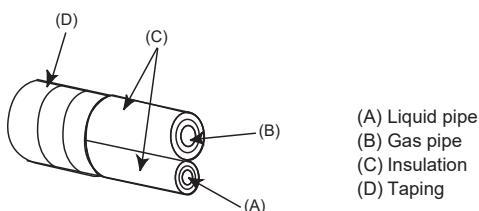
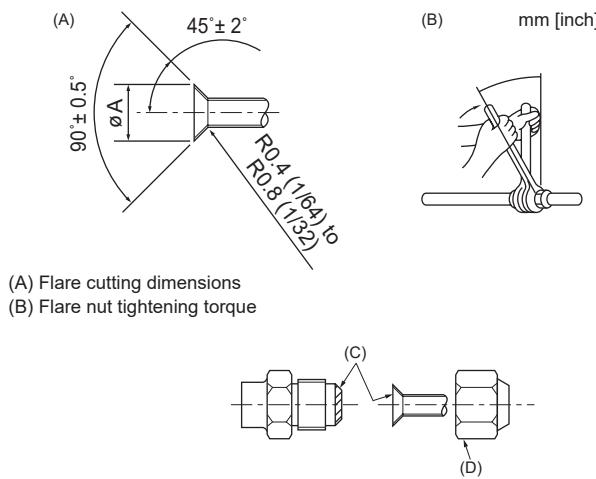

Fig. 4-1
Fig. 4-2
(A) (Fig. 4-1)
(B) (Fig. 4-1)
4.2. Connecting pipes (Fig. 4-1) (Fig. 4-2)
When commercially available copper pipes are used, insulate both the liquid and gas pipes separately with commercially available insulation materials (heat-resistant to 100 °C, 212 °F or more, thickness of 12 mm, 1/2 inch or more). (Fig. 4-1)
- The indoor parts of the drain pipe should be wrapped with polyethylene foam insulation materials (specific gravity of 0.03, thickness of 9 mm, 23/64 inch or more). (Fig. 4-2)
- Apply thin layer of refrigerant oil to pipe and joint seating surface before tightening flare nut. (A)
- Use 2 wrenches to tighten piping connections. (B)
- Apply refrigerating machine oil over the entire flare seat surface. (C)
- Use the flare nuts for the following pipe size. (D)